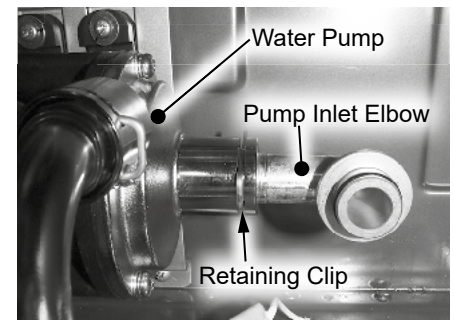

Figure 8 - Pump inlet elbow location
• Locate the pump inlet elbow. Remove the retaining clip securing elbow to water pump. Remove pump inlet elbow and dispose of properly. See Figure 8.